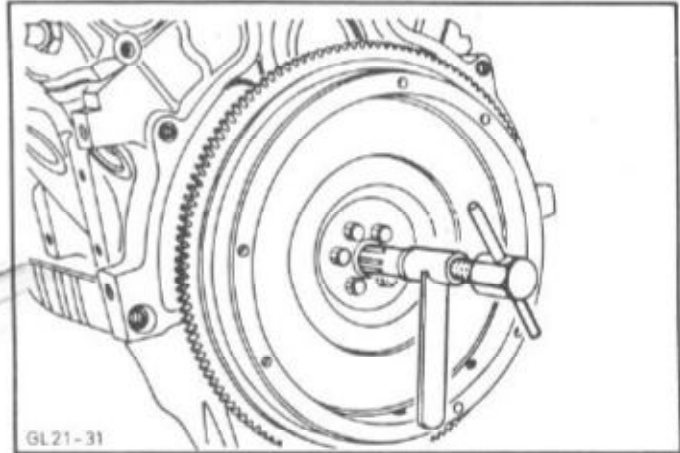

Fig.147. Withdraw pilot bearing with Special Tool.
2. Remove the pilot bearing using Special Tool, Fig.147.